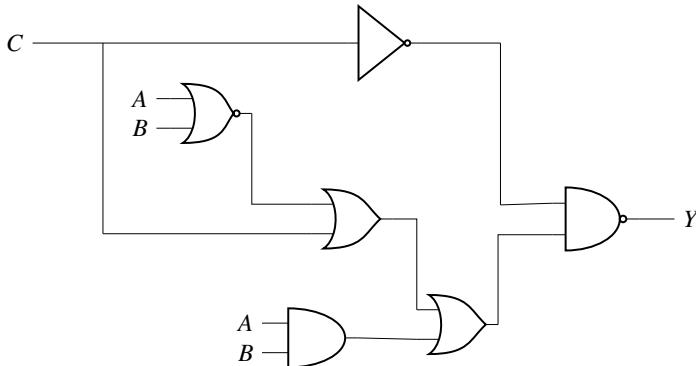

Fig. 3.33
52. In the circuit shown in Fig. 3.33, if $C = 0$, the expression for Y is